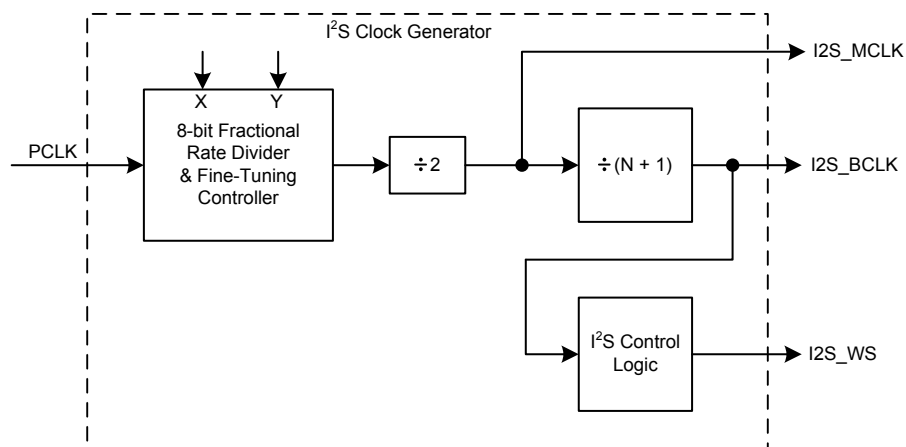

Figure 156. I²S Clock Generator Diagram
The main (I2S_MCLK) and bit clock (I2S_BCLK) rates for the I²S are determined by the values in the I2SCDR register. The required I²S bit clock rate setting depends on the desired audio sample rate desired, the format (stereo / mono) used and the data size. The main clock rate (I2S_MCLK) is generated using a fractional rate divider which is a divided down PCLK frequency of the I²S. Values of the numerator (X) and the denominator (Y) must be chosen to produce a frequency twice that of the main clock (I2S_MCLK). The output frequency of the divider is divided by 2 in order to get the duty cycle of the output clock more even. The I²S clock generator block diagram is shown in Figure 156. The equation for the fractional rate divider is: